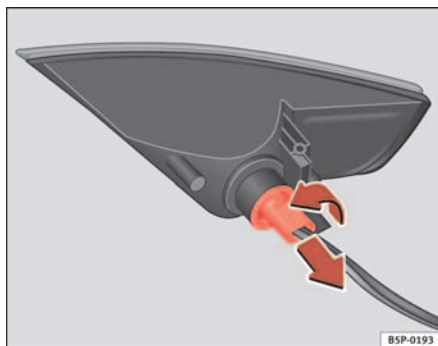

Fig. 193 Rear light after removal from bumper
- Rotate the lamp holder to the left, and remove it in the direction of the arrow ⇒ fig. 193.